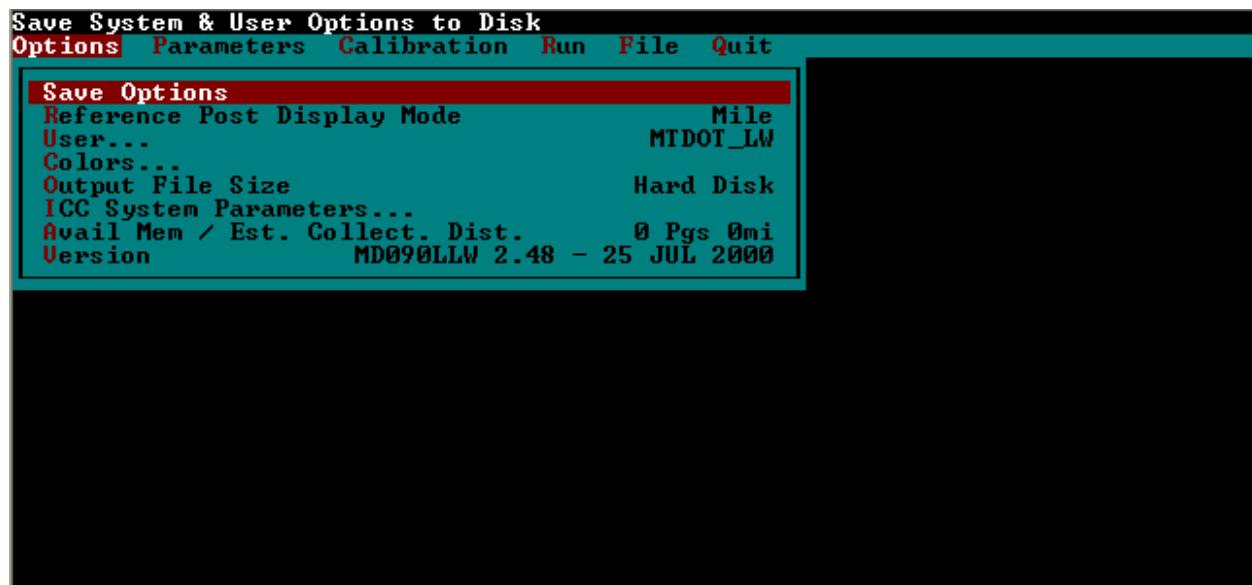

Figure 3-4. MDR Software Options Menu for Bounce Test.
2. In the MDR Main Menu, select 'Options' to display the options menu. In the Options Menu, verify that the "Reference Post Display Mode" is set to "Mile" as shown in Figure 3-4.